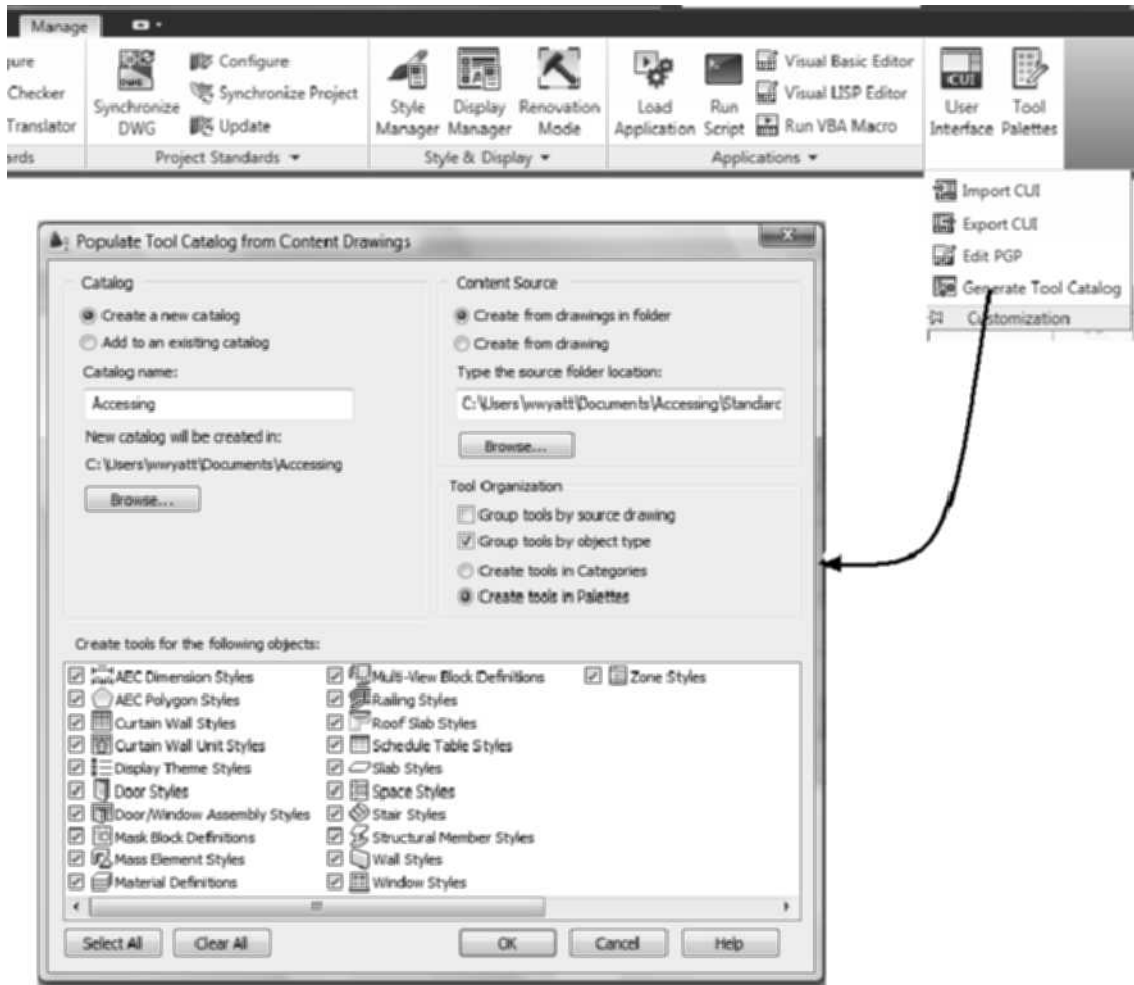

FIGURE 10.33 *Populate Tool Catalog from Content Drawings*
When you select the **AecToolCatalogGenerator** command, the **Populate Tool Catalog from Content Drawings** dialog box opens as shown in Figure 10.33. The Populate Tool Catalog from Content Drawings dialog box allows you to specify the source drawing to extract the tools and add to specify the name and location of the new catalog. You can specify whether the tools are created on palettes and which tools to include in the new catalog.
3. Specify the source and path to drawings in the Content Source section. Edit the path to the *Project Name\Standards\Content*. Choose the options of **Tool Organization** as shown in Figure 10.33 to specify how to group the tools.